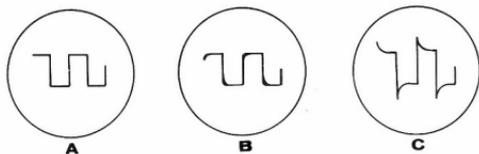
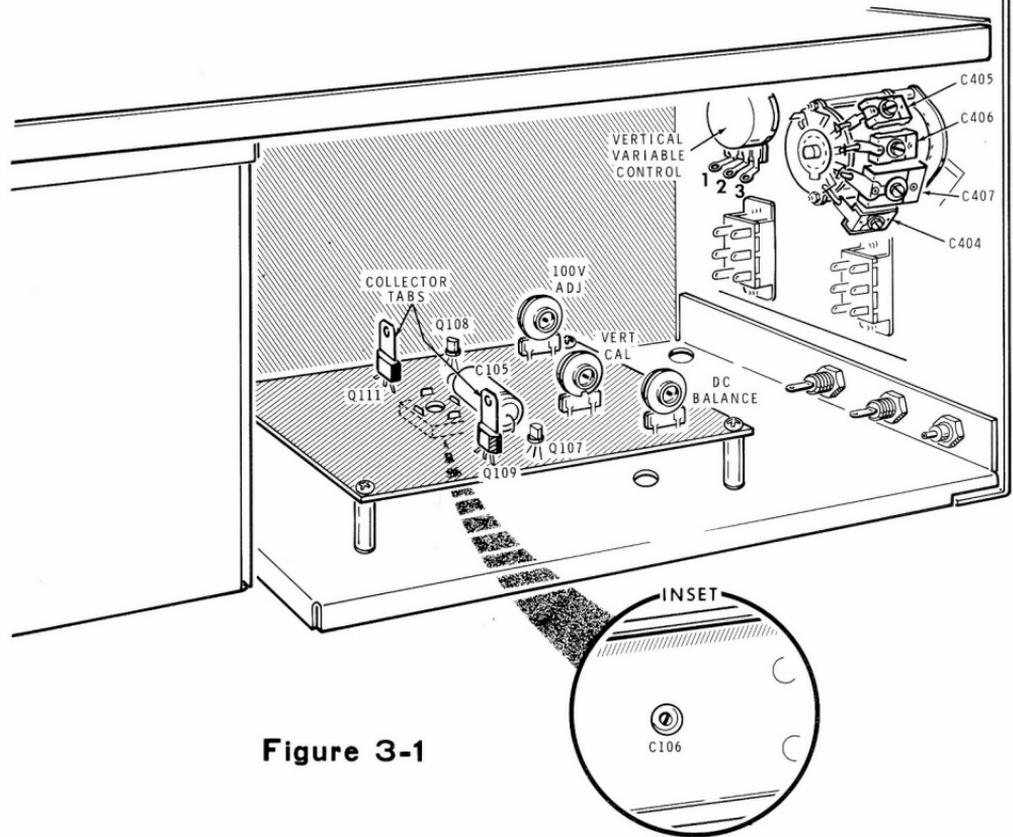

Figure 4-1
Figure 3-1
- () Adjust the output of the signal generator to provide a 100 kHz square wave signal to the vertical INPUT jack of the Oscilloscope. The signal on the CRT may resemble A, B, or C of Figure 4-1 at this time.
Figure 4-1 shows the conditions of the correct amount of circuit compensation, too little, and too much. After you make the following adjustments, the waveform should appear as shown in Part A of Figure 4-1.
() Adjust trimmer capacitor C106 (Figure 3-1, fold-out from Page 3-53) on the vertical amplifier circuit board until the waveform appears as shown in Part A of Figure 4-1.
() Adjust trimmer capacitor C405 until the waveform appears as shown in Part A of Figure 4-1.
() Adjust trimmer capacitor C407 until the waveform appears as shown in Part A of Figure 4-1.
() Adjust trimmer capacitor C406 until the waveform appears as shown in Part A of Figure 4-1.
() Adjust the trimmer capacitor on the low capacity probe to produce a waveform as shown in Part A of Figure 4-1.
() Adjust trimmer capacitor C404 to produce a waveform as shown in Part A of Figure 4-1.
- () Refer to Figure 3-1 and adjust the VERT CAL control for 3.3 cm of vertical deflection.